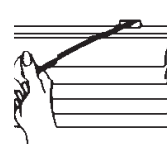
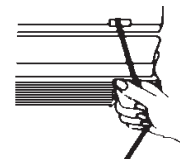

Fig. 21
Fig. 22
- An automatic locking device takes effect when the cords hang vertically down. To raise or lower the blind pull the cords toward the middle and down slightly to release the lock (fig.21). When at the desired height, return the cord to the vertical position to re-engage the locking device (fig. 22). When raising and lowering the blind, the slats should be in the horizontal (open) position.